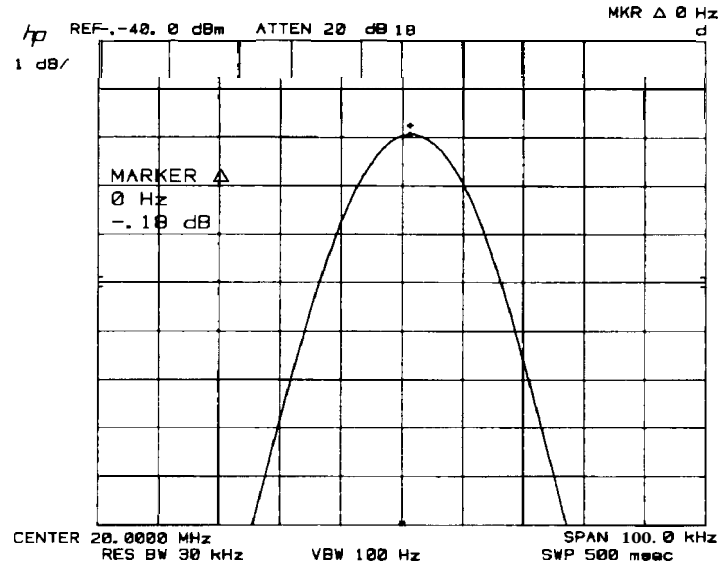

Figure 2-10. Attenuator Switching Uncertainty Measurement
7. Set **ATTEN**, **REFERENCE LEVEL**, and frequency synthesizer amplitude according to Table 2-1 1. At each setting, press MARKER **PEAK SEARCH** and record the deviation from the 10 dB setting from the MARKER A amplitude readout (see Figure 2-10). The deviation should not exceed ± 1.0 dB at any setting.